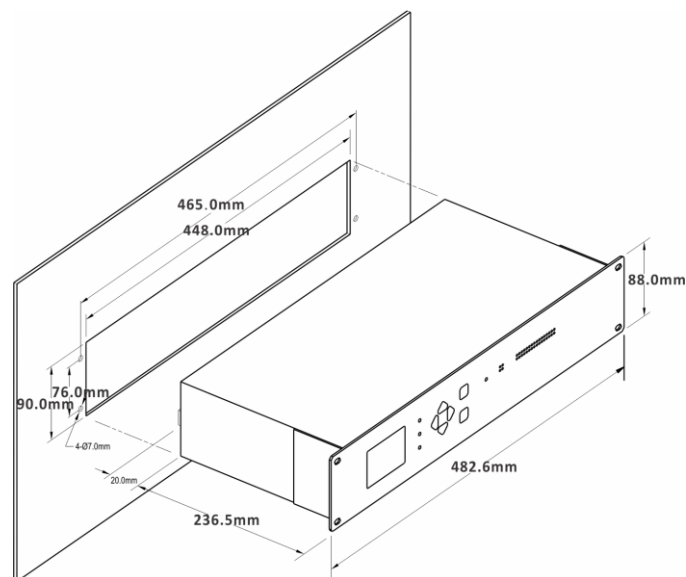

Figure 2-3 Panel Cutout
- Fit the device through the cutout as shown in Figure 2-3